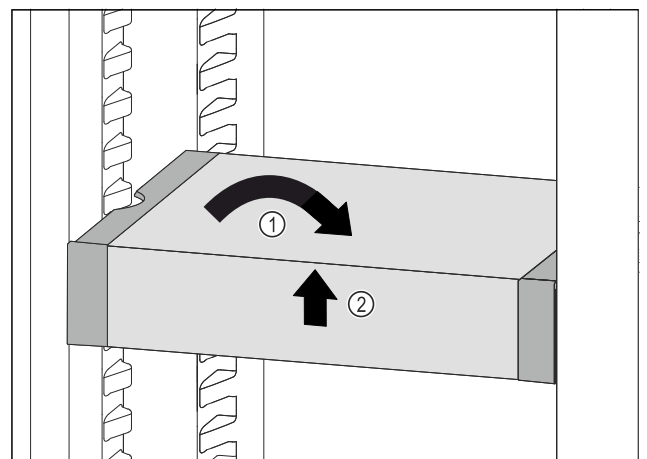

Fig. 100
- ▶ Set VarioSafe straight. Fig. 100 (1)
- ▶ Lift VarioSafe at the front. *Fig. 100 (2)*